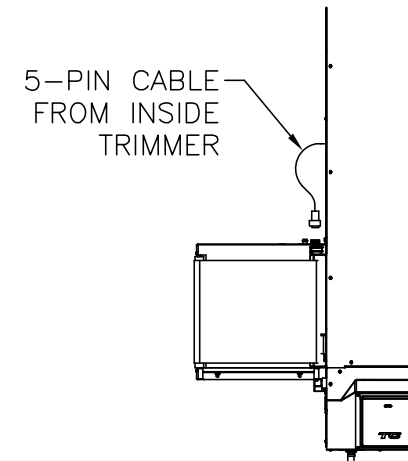

Figure 2-25. Power Cable Connection
3. Connect the power cable as shown in Figure 2-25.